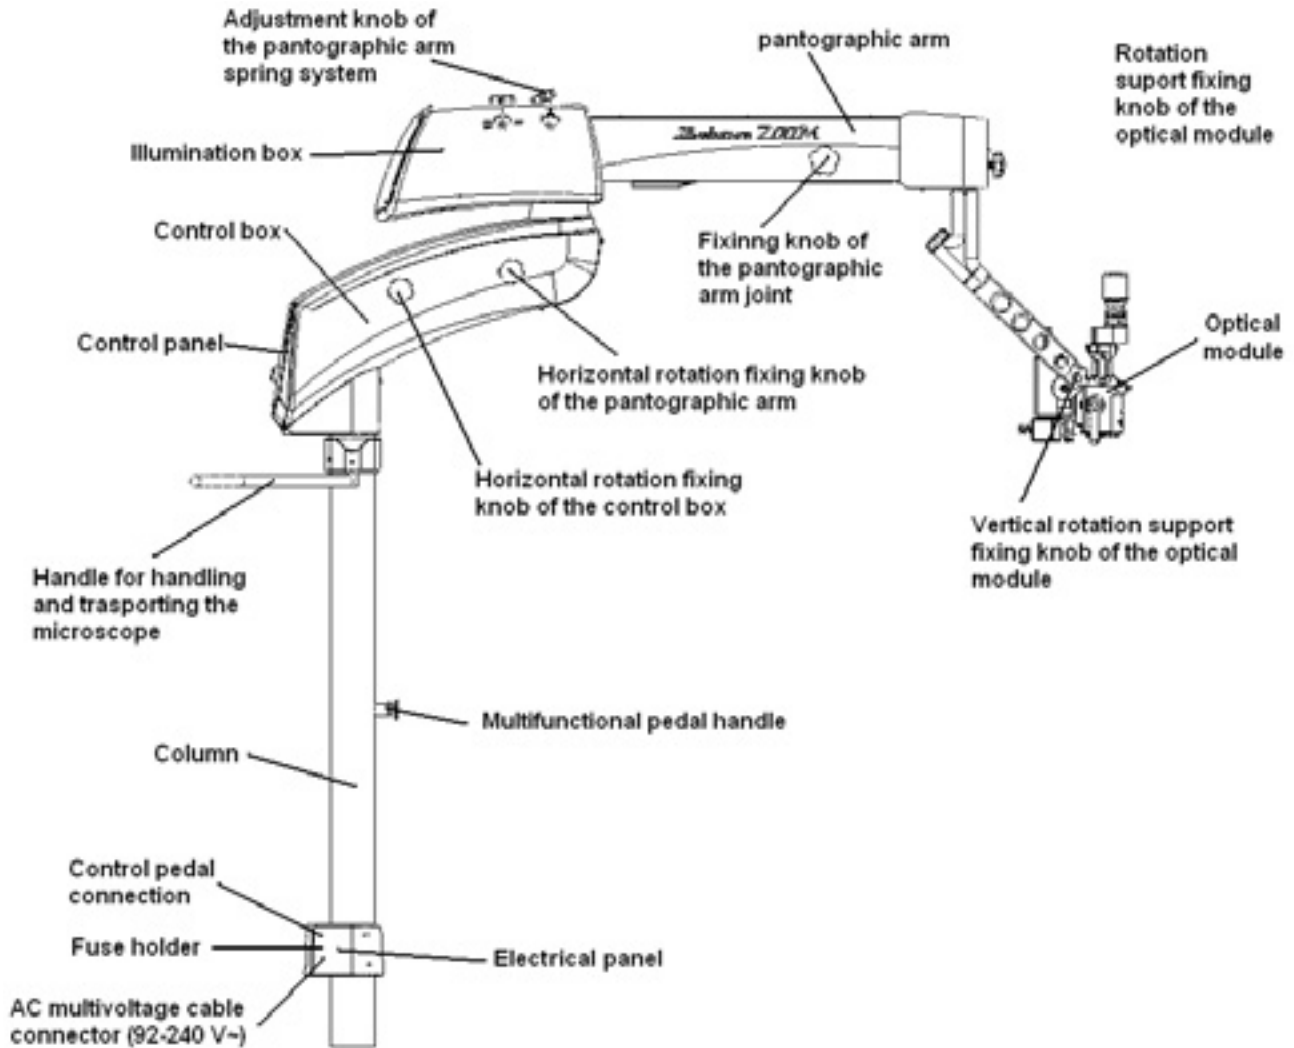
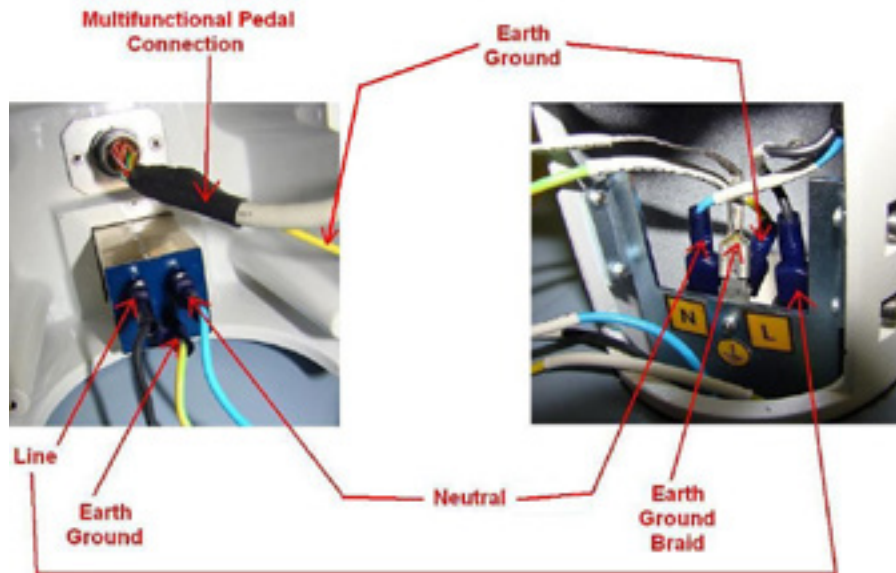
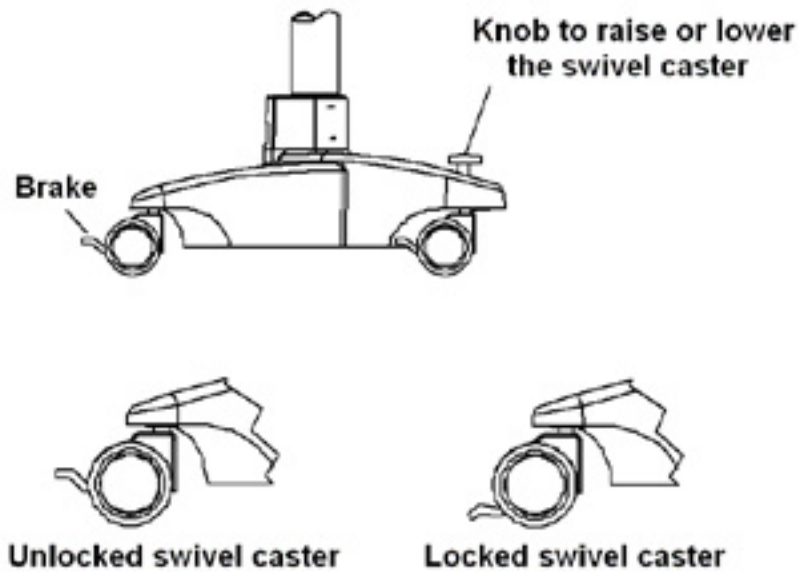
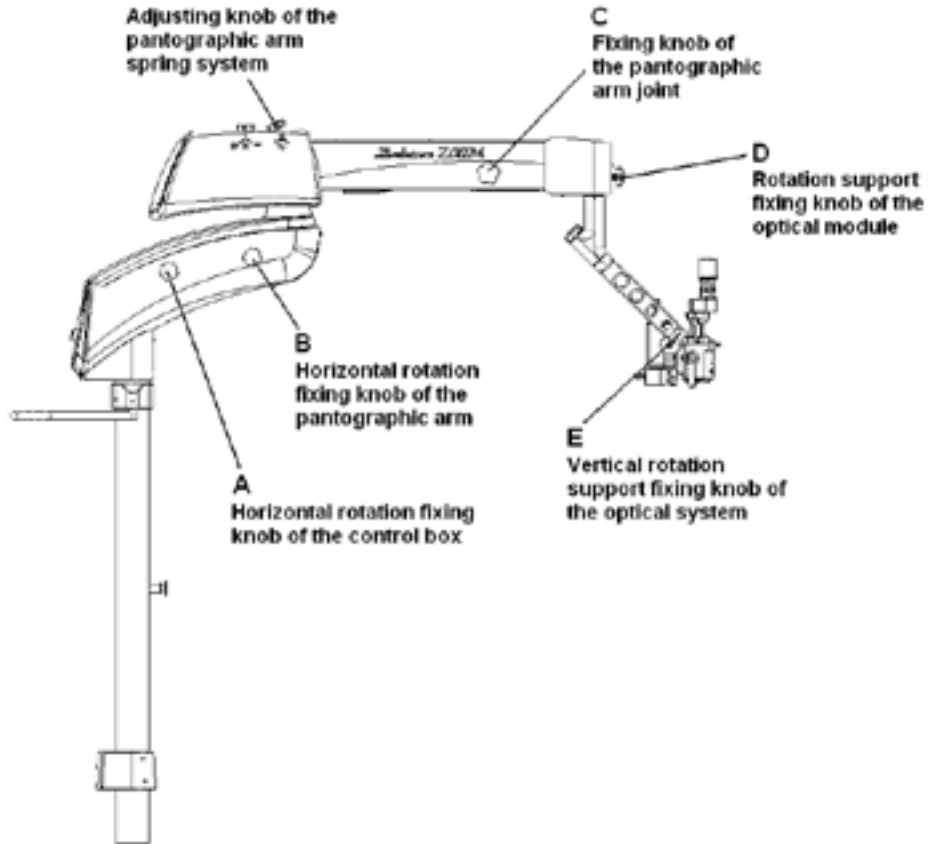

Figure 2: Main elements of the Seiler Evolution Zoom Microscope
Figure 7: Electrical panel connections: internal part of the panel cover (left) and the column (right)
Figure 10: Swivel casters with brakes
Figure 11: Knob positions of the microscope
The electrical panel cover is fastened to the column with screws (Figure 2). The cables shall be connected as indicated (Figure 7).
Before using the **Seiler Evolution Zoom Microscope**, one can move it from one place to another and change the position of the main modules to meet specific demands, since the followings instructions are considered (Figure 10 and Figure 11):
The level of the base can be set using the Knob to raise or down the swivel casters, so as to place them on a horizontal plane (Figure 10).
To adjusting the optical system to a specific position, make sure the swivel casters are properly locked (Figure 10). Then, loosen the knobs indicated and place the optics in the required position (Figure 11). After that, re-tighten the Knobs (do NOT over-tighten them).
To rotate the optical module vertically, release knob E. This may be slightly difficult, since the system is assembled with a preload to prevent the optical module from falling/rotating involuntarily (Figure 2 and Figure 11).
ATTENTION: A spring inside the pantographic arm ensures its smooth and precise movement. The spring's tension is NOT pre-set in the factory, because it must be released for transportation. When assembling the microscope, this spring must be set by its adjustment knob (Figure 11). Where accessories are added to the optical module, the weight to be balanced by the pantographic arm is increased, so the knob must be turned anti-clockwise. Become aware of eventual downward movement of the optical system, especially when adding accessories. **IDEAL SETTING:** When moved upwards or downwards, the pantographic arm remains in the new position without having to tighten the fixing Knob of the pantographic arm.
- Loosen the knob of the pantographic arm joint (Figure 11), then put the optical module in a distance from the working that are approximately the focal length of the objective lens in use. Re-tighten the knob to fix the pantographic arm.